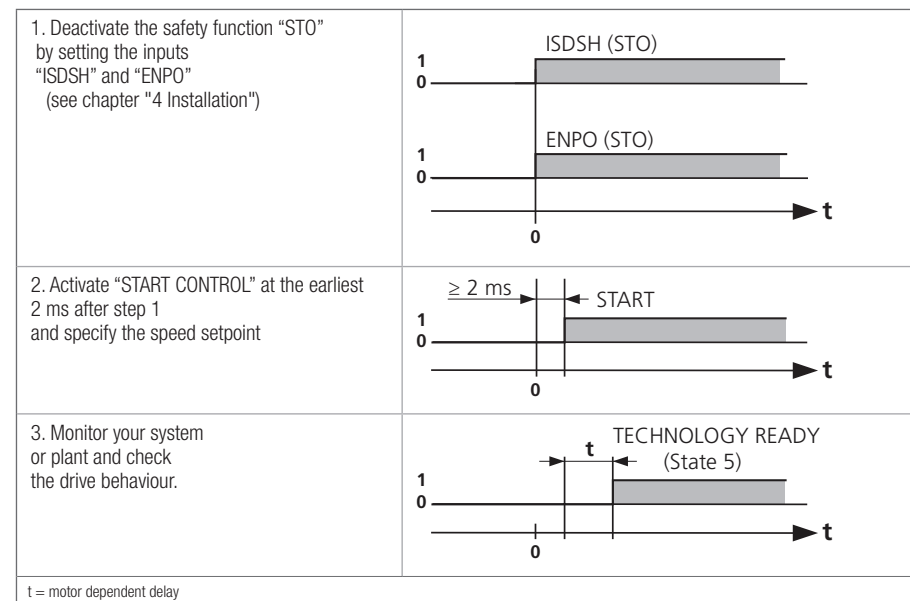

Figure 5.1 Power-up sequence
Step 2 in Figure 5.1 is best undertaken via the "Manual mode" window in Moog DRIVEADMINISTRATOR 5, details can be found in Moog DRIVEADMINISTRATOR help.